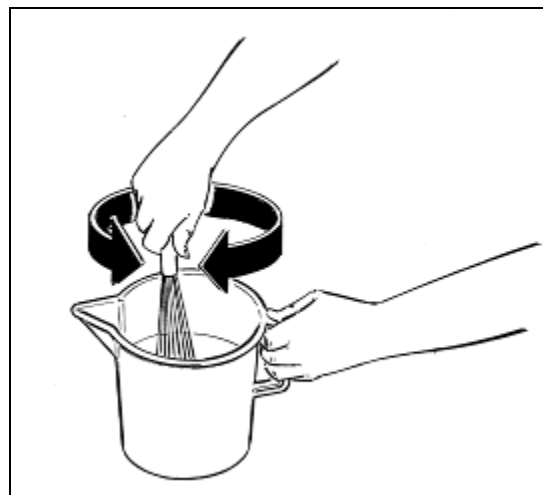

Fig. 21
- Dilute and mix the product in a separate container according to the manufacturer's instructions (see fig.21).